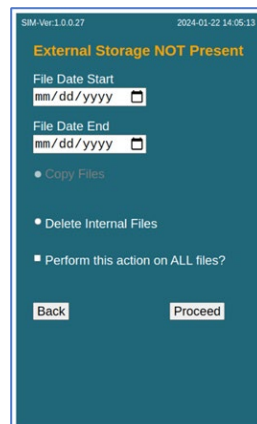
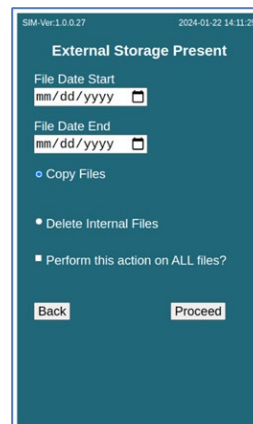

Figure 18. External storage not present
Figure 19. External storage present
**Step 2.** A USB-A memory stick must be inserted into the unit. If it is not inserted properly, the screen will display “External Storage NOT Present” (Figure 18) or “External Storage Present” once the USB is recognized (Figure 19)